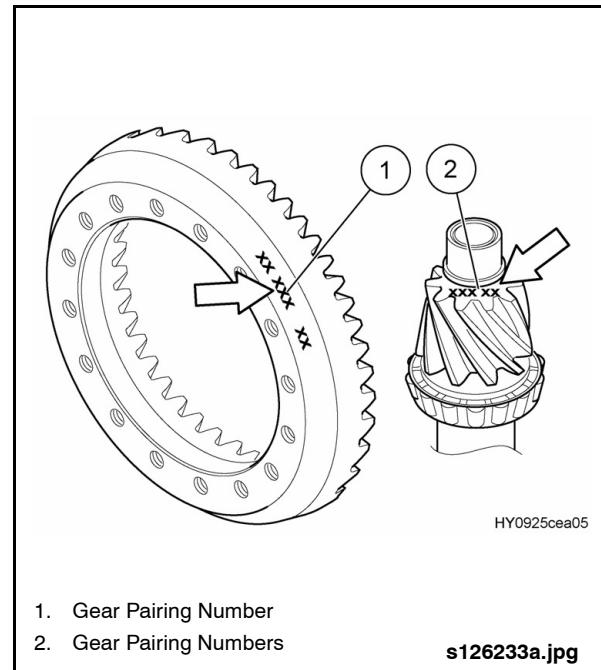

Fig. 2-63: Gear Pairing Numbers
1. Pay attention to the pairing numbers and when fitting a new gear set (crown gear/drive pinion). See "Fig. 2-63: Gear Pairing Numbers" on page 53.